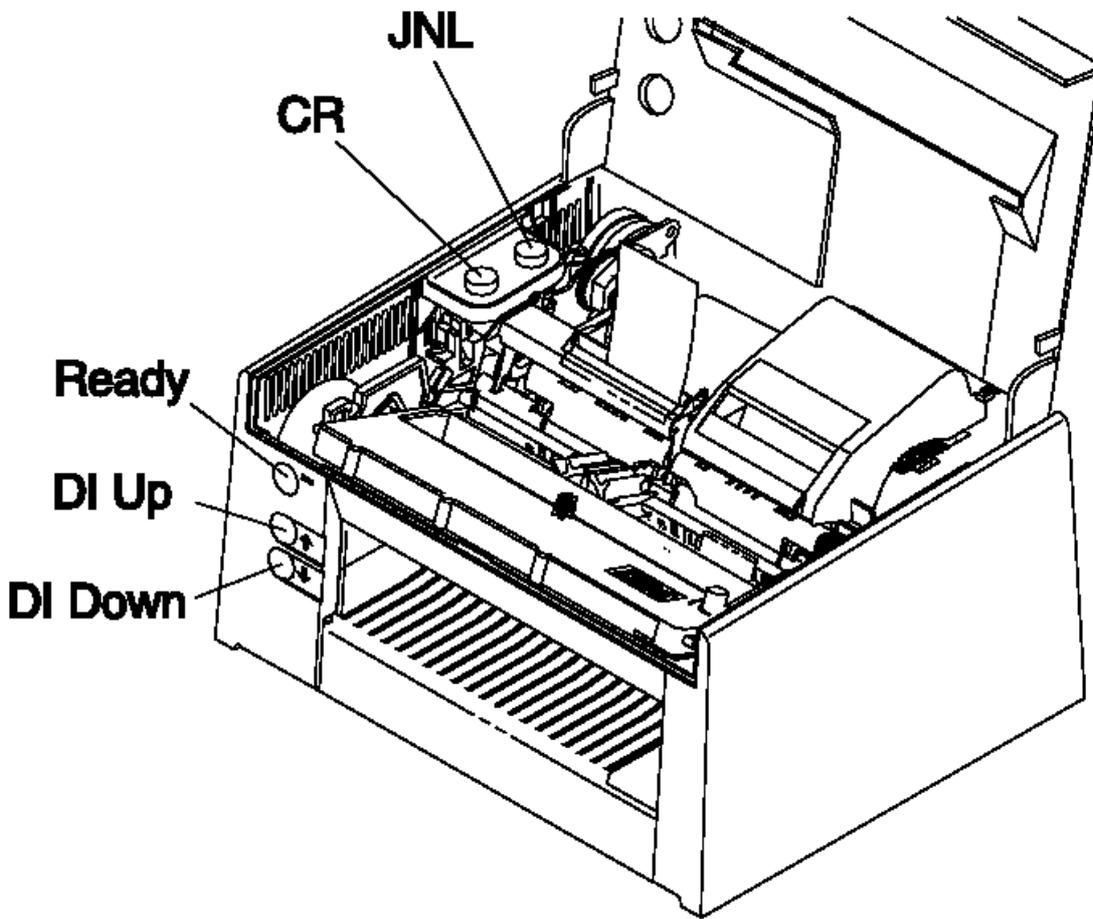

Figure 6-7. Printer Buttons
- Press and hold the Ready button. See Figure 6-7.